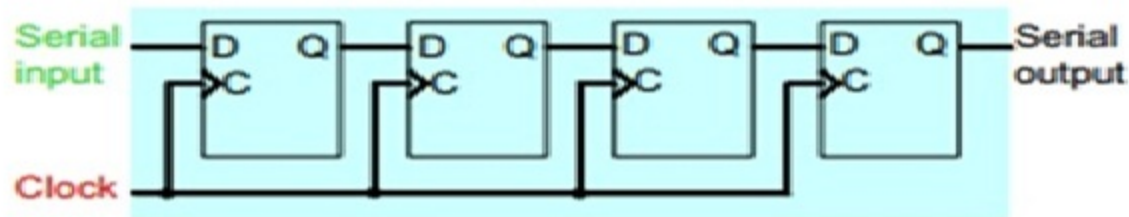

Fig. 2-8 4-bit shift register
- ◆ The simplest possible shift register uses only flip-flops : *Fig. 2-8*